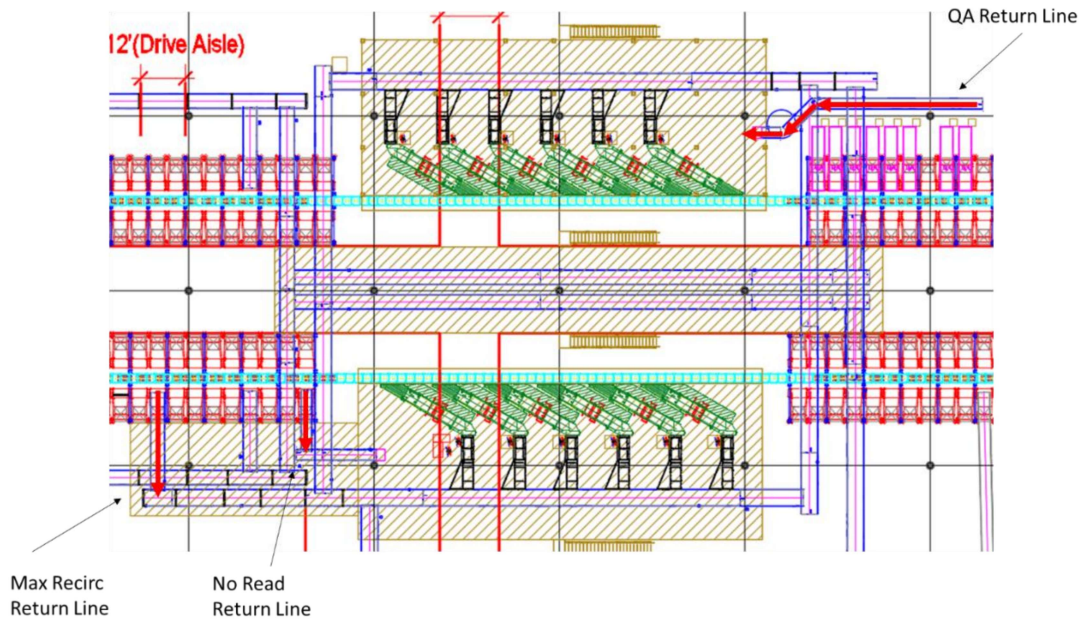

Figure 5 – Mantissa Tilt Tray Max Recirc, No Read, and QA Handling
Savoie has provided the following methods to handle exception parcels on the Mantissa tilt tray sorter. One (1) max recirculation return conveyor line is provided to remove parcels after a pre-defined number of revolutions on the sorter. Savoie has also provided one (1) no-read return conveyor line to bring parcels which didn't get a good scan directly back to the induction platform. Savoie has designated eight (8) chutes off the tilt tray sorter for various QA types. A workstation will be positioned at the base of EACH QA chute for processing. These workstations will be provided by Pitney Bowes. the operator will then place the processed parcel onto a conveyor which will transport the parcel to a powered incline spiral and onto the induction platform. The parcels will fall into a cart and then will manually be placed into the nearest operator chute for re-induction onto the tilt tray sorter. Locations of the various exception handling chutes and conveyors are shown on Figure 5.